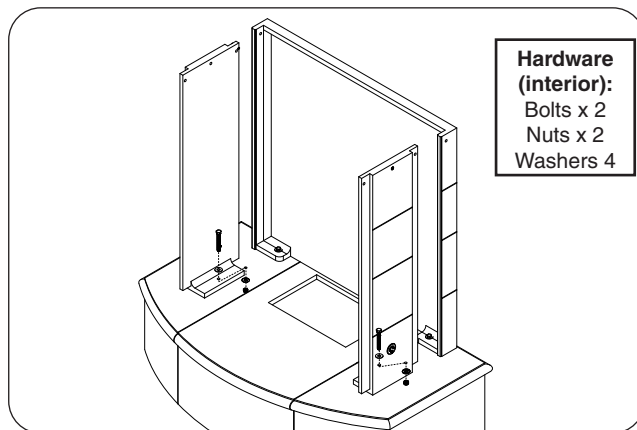

Fig. 23-2 Assemble body - side walls
2. Place the body side walls pieces on top of the hearth. Carefully align the pilot holes to the hearth, insert the hardware (interior hardware kit), and only hand tighten at this stage. See Fig. 23-2.